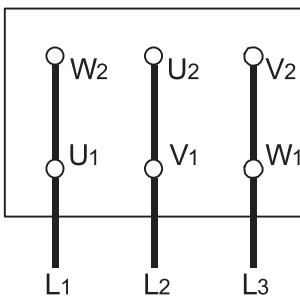

Fig. 10a.  $\Delta$  - connection
- The mains connection on the tagboard depends on the nominal power of the motor, the power supply and the type of connection. The necessary connection of the bridges in the terminal box is shown in the following (Table 1. and Fig. 10a, 10b, 10c).